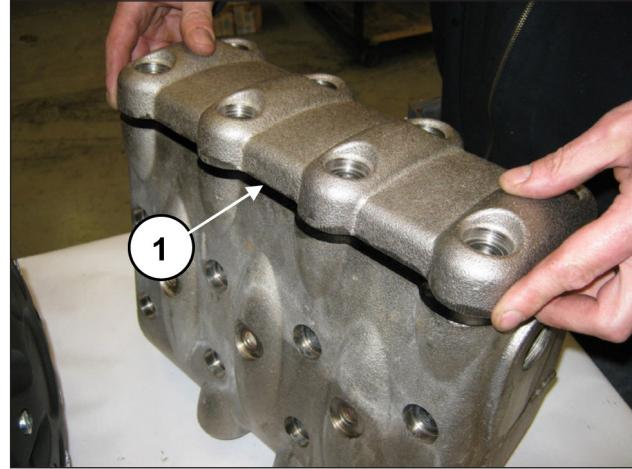
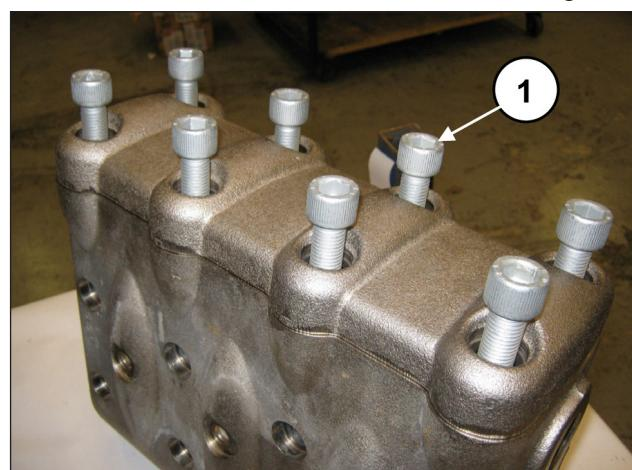

Fig. 126
Fig. 127
After having completed assembly of the valve units and the valve plug, apply the valve cover (pos. ①, Fig. 126) and screw in the 8 M16x55 screws (pos. ②, Fig. 127).